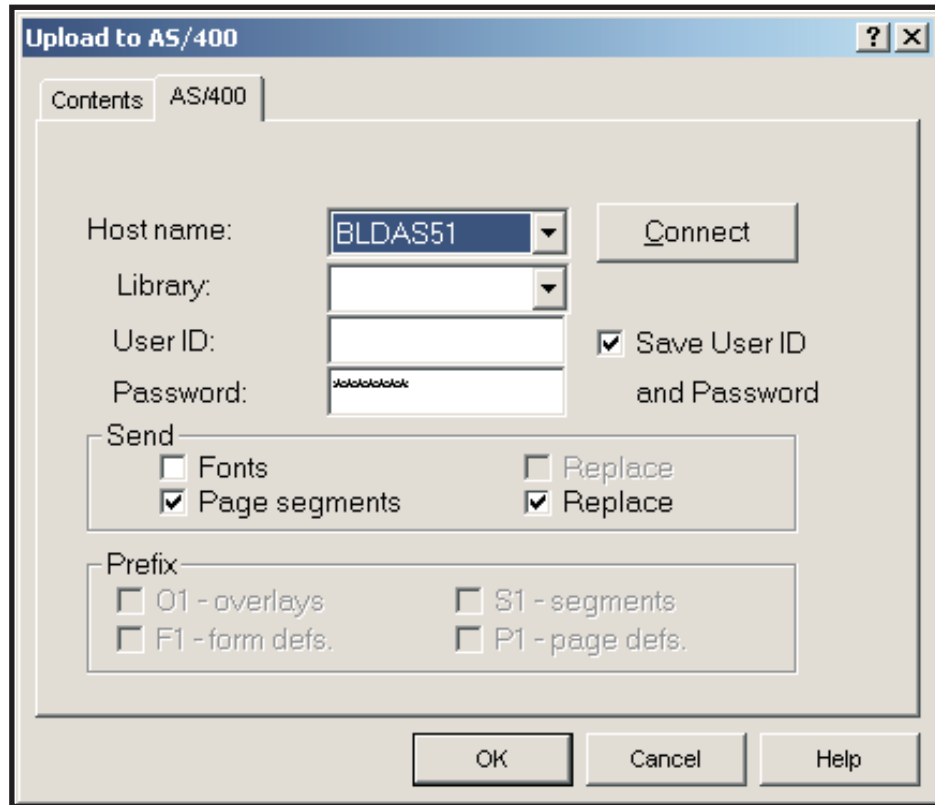

Figure 74. Upload to AS/400 Dialog, AS/400 Connection Page
- To upload the project to the iSeries, click **File** and select **Upload to AS/400**. The **Upload to AS/400** dialog opens. On the **Contents** page, select **Whole project** so that all the project resources (overlays, images, page definition, and form definition) that have been created based on your design will be uploaded and compiled. Open the **AS/400** page to verify your connection information, as shown in Figure 74 on page 181. Ensure that **Page segments** is selected so the Super Sun Seeds logo file is sent to your system as well as the resources you created. Click **OK**. A series of messages show the file transfer status.